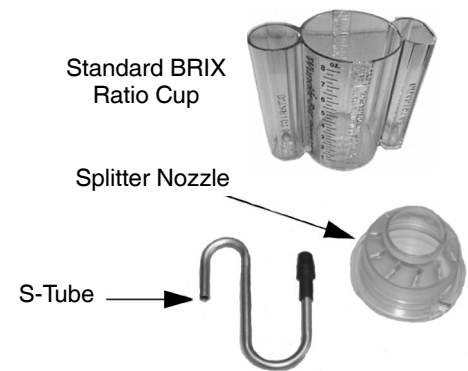

Figure 1.
1. Locate “BRIX Ratio Check” parts, Standard BRIX Ratio Cups, S-tube and Splitter Nozzle (Figure 1) and a sanitized towel.